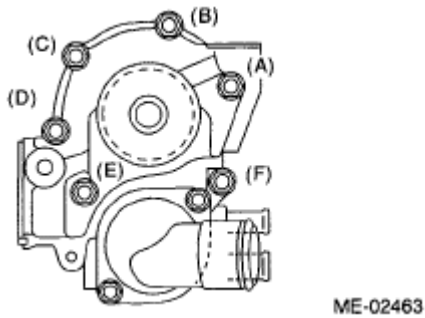

Fig. 151: Identifying Water Pump Bolts Alphabetical Sequence
19. Remove the water pump after loosening the bolts in alphabetical sequence as shown in **Fig. 151**.